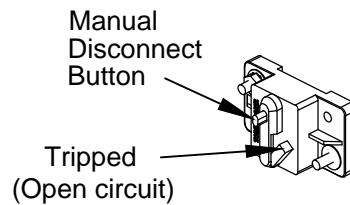

Figure 4: Circuit breaker.
3. **Disconnect** the #4 power cable from the positive side of the battery or manually trip the circuit breaker (Figure 4).